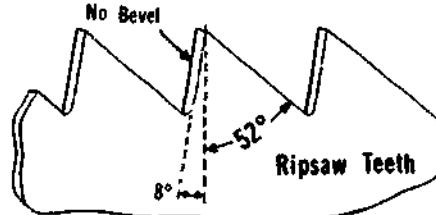

Figure 1-104. Tooth Specifications for Ripsaw Blade
- c) The main difference between a ripsaw and a crosscut saw is in the shape of the teeth. A tooth with a square-faced, chisel-type cutting edge like the ripsaw tooth seen in Figure 1-104 does a good job of cutting with the grain of the wood (called ripping), but a poor job of cutting across the grain.